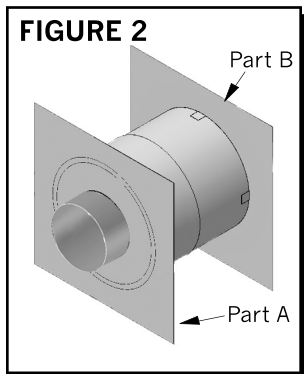

FIGURE 2
1. Determine the location of the Wall Thimble so that a continuous minimum slope of 1/4" per foot is maintained in any horizontal portion of the vent system. (See figures 2 & 3)